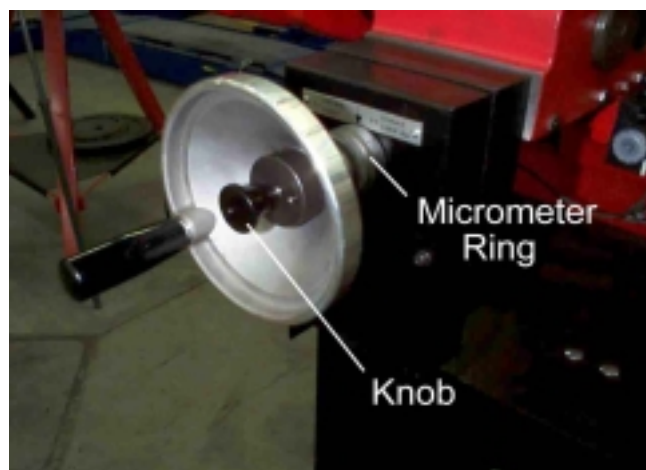

Figure 2
- 3) Remove the Knob (Figure 2) by turning counterclockwise. If pliers must be used, place a soft rag over the knob to prevent scratching.
- 6) Pull off Micrometer Ring (Figure 2) which is held in place by an O-Ring on the inner diameter.
- 8) Push the Micrometer Ring (Figure 2) onto the Control Shaft. The numbered edge should be nearest the Control Cover.